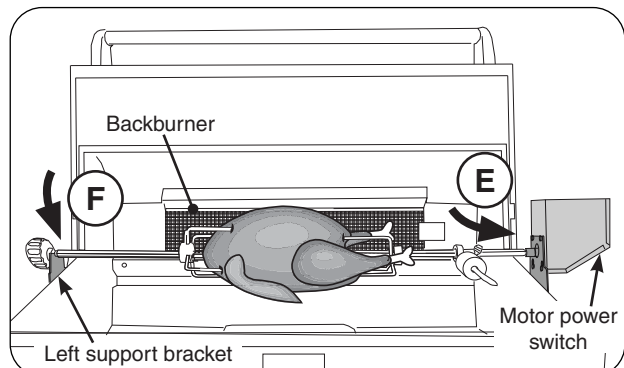

Fig. 30-4 Attach Rotisserie rod to motor
10. Insert the pointed-end of the rod into the motor drive socket (see Fig. 30-4, E). Then rest rod groove (next to the knob) into the left support bracket (see Fig. 30-4, F).